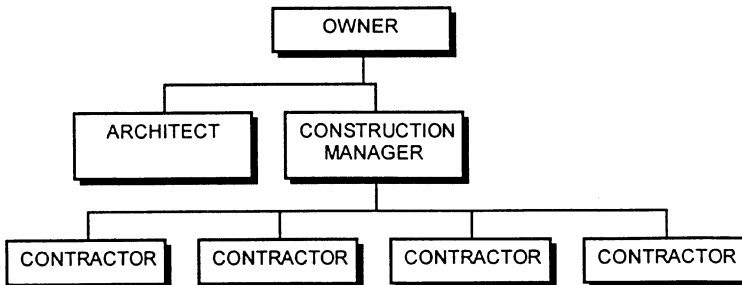

Figure 9 Construction Management Method.
In the past 20 years, the technique known as construction management (CM) has evolved, flourished, and to some degree lost favor. It was touted as a method of speeding the construction process through fast tracking while giving the owner additional control of the project by eliminating the general contractor. Instead of awarding the project to a GC through a competitive bidding process or through negotiations, the owner hires a construction manager just as he hires an architect. The GC system is eliminated in favor of a system designed to have the architect and CM both work for the owner on a fee basis. A typical organizational chart for a CM project is shown in Figure 9.